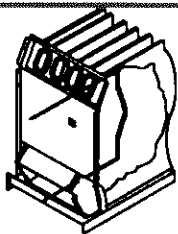

FIGURE 28
- 8- Insert a 2 ft. (600 mm) steel rod that has a 20 in. (508 mm) length of chain attached to one end into top opening of heat exchanger. See figure 28.